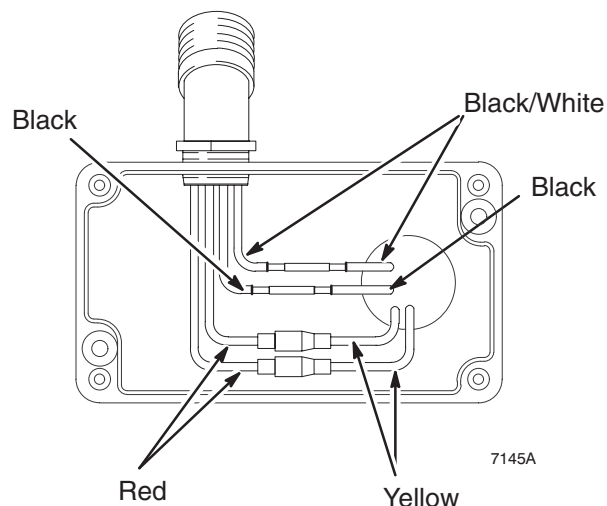
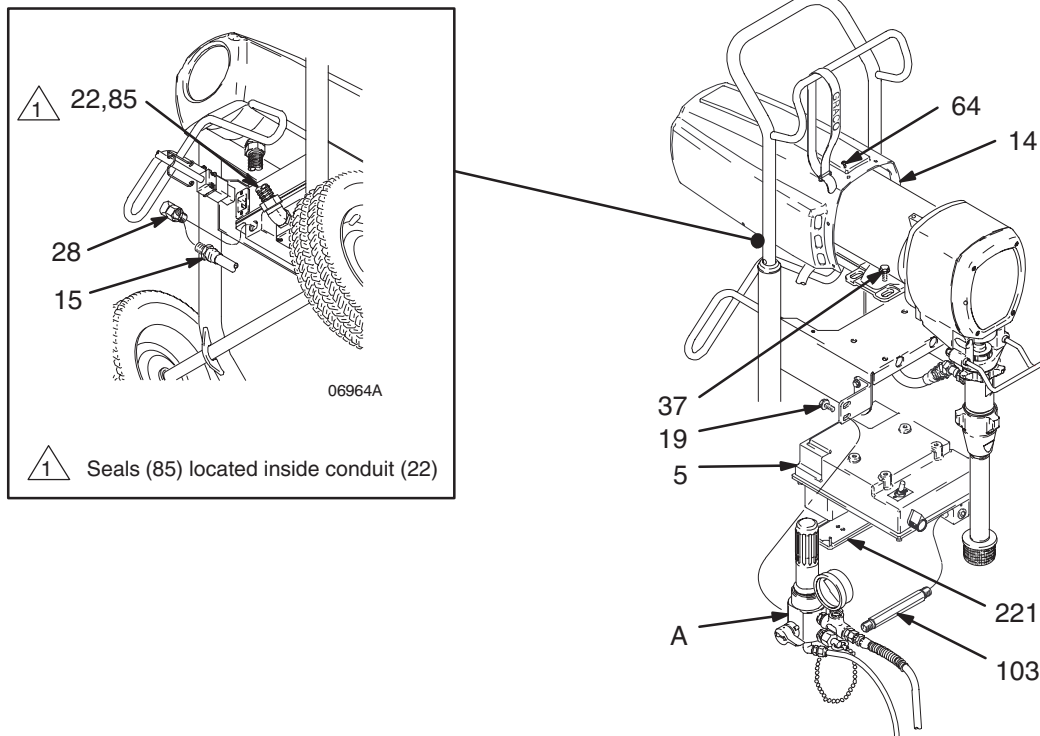
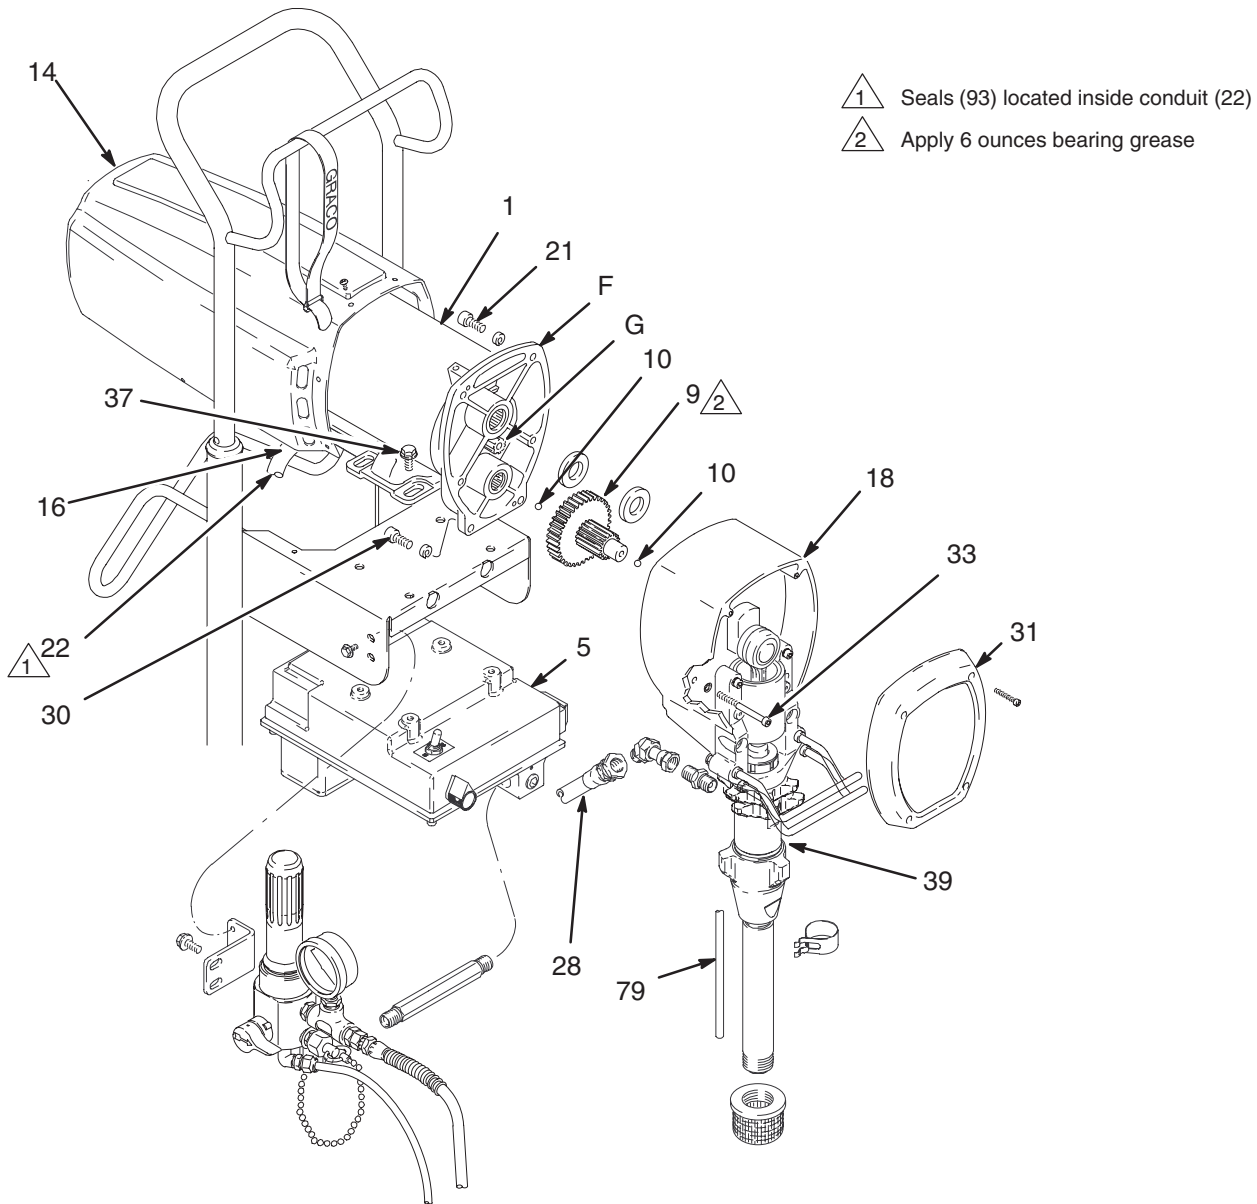

Fig 13
Fig 14
Fig. 17
2. Remove two screws (19) holding filter assembly (A). See Fig. 14 and parts list, except as noted.
3. Remove filter assembly by unthreading swivel union (15) from hex nipple (103). Unthread nipple from pressure control (5)
4. Remove 8 screws (64) and motor shield (14).
5. Remove outlet cover (221) on pressure control wiring box. Disconnect motor leads. See Fig 13.
6. Loosen electrical tubing (22) from pressure control fitting and pull out wires
7. Remove hose (28) from rear of pressure control swivel union (15).
8. Support pressure control (5) and carefully remove motor mount screws (37). Remove pressure control.
9. Install new pressure control (5) with screws (37).
**NOTE:** Refer to Fig. 17 and parts list, except as noted.
2. Remove motor shield (14). Remove front cover (31). Disconnect hose (28) at pump. Disconnect drain hose (79) from pump (39).
3. Remove outlet cover on pressure control wiring box. Disconnect four motor leads. See Fig 13.
4. Unscrew conduit connector (16) from motor and pull motor leads from tubing (22).
5. Remove screws (33) from recess of drive housing.
6. Remove screws (21 and 30) from motor bell (F).
7. Use a plastic mallet to tap displacement pump (39) from rear to loosen drive housing (18) from motor bell (F). Pull off drive housing.
8. Lower pressure control (5) by unscrewing motor mounting screws (37).
9. Lift off motor (1).
10. Mount and center new motor on frame and attach pressure control (5) with motor mounting screws (37).
11. Insert motor leads through connector (16) and tubing (22) to pressure control. Screw connector (125) two or three threads into motor. Tighten locknut up to motor. Connect four motor leads. See Fig. 13.
12. Liberally grease gear cluster (9) and pinion gear (G) and pack all bearings in motor bell. Be sure thrust balls (10) are in place. (One ball is included with a replacement drive housing.)
13. Align gears and push drive housing (18) straight onto motor bell (F) and locating pins.